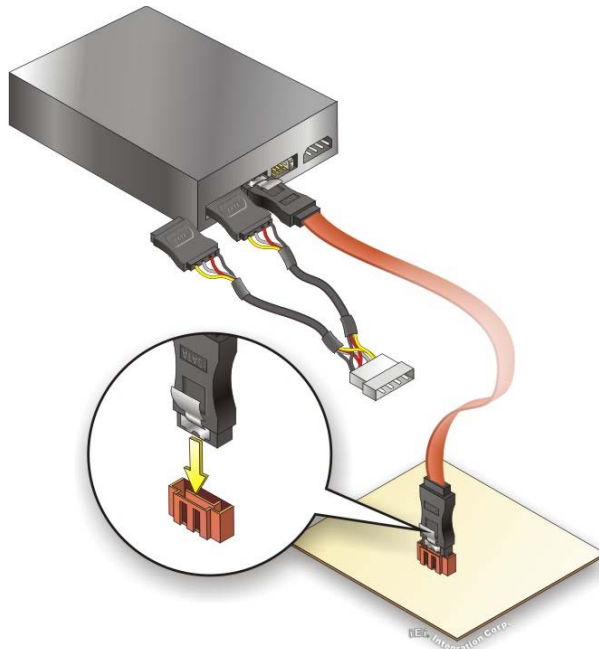

Figure 4-13: SATA Power Drive Connection
Step 3: Connect the cable to the SATA disk. Connect the connector on the other end of the cable to the connector at the back of the SATA drive. See **Figure 4-13**.
Step 4: Connect the SATA power cable (optional). Connect the SATA power connector to the back of the SATA drive. See **Figure 4-13**.